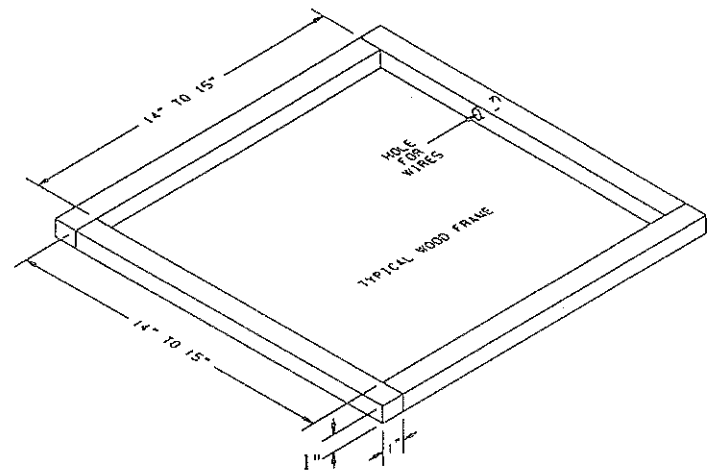

FIGURE 1
B. If a roof vent opening is not used, a new opening (See Figure 1) will have to be cut into the vehicle roof. A matching opening will also have to be cut into the interior vehicle ceiling. If the ceiling opening is carpeted, snagging could occur. After the opening in the roof and interior ceiling are the correct size, a framed support structure must be provided between the exterior roof top and interior ceiling. The reinforced framed structure must provide the following guidelines:
Airxcel, Inc. recommends that the spacing from the vehicle roof top to the interior ceiling top be no less than 1". A typical support frame is shown in Figure 1.